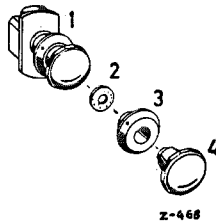

Fig. 54 — 18/1
2. Unscrew the control knob (4) and the escutcheon (3) from the push-pull switch (Fig. 54 — 18/1).